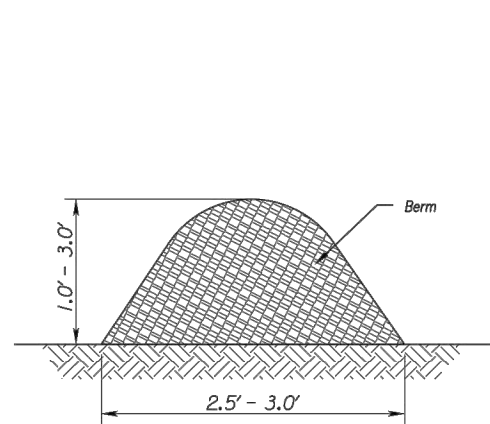
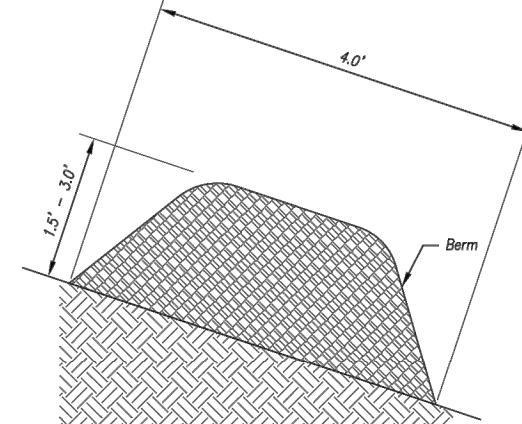

Figure 1 (Perimeter Control)
Figure 2 (Steep Slopes)
2. Parallel to the base of the slope, or around the perimeter of other affected areas, construct a 1 to 3 foot high by 2.5 to 3 foot wide berm (see Figure 1). For maximum water treatment ability on steep slopes, construct a 1.5 to 3 foot high trapezoidal berm that is a minimum of 4 feet wide at the base (see Figure 2). In extreme conditions, or where specified by the engineer, a second berm shall be constructed at the top of the slope. Engineer will specify berm requirements.